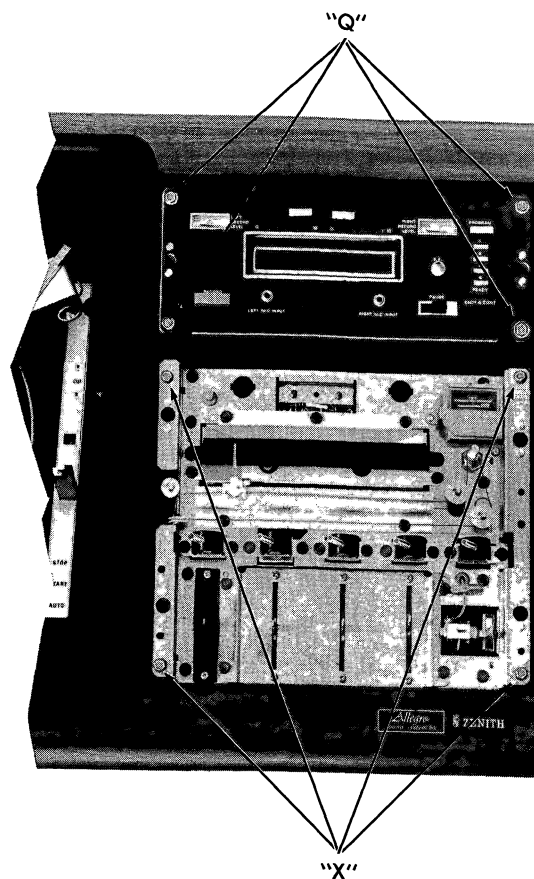

FIGURE 28 — MODELS G596W AND GR596W
6. Remove (4) screws holding tape unit to front panel ("Q" in Figure 28).
7. Remove four (4) screws holding tuner chassis to front panel ("X" in Figure 28).